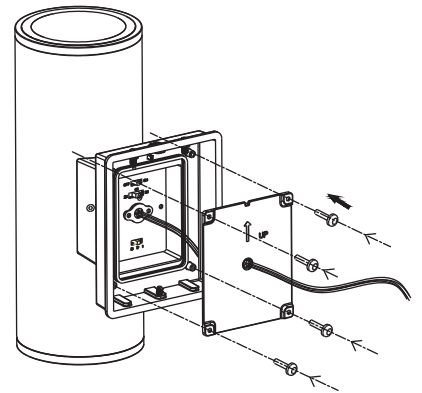

Figure 3
- Identify arrow and notch on the cover for upward direction of the luminaire. Attach back the cover and tighten the screws. (Figure 3)